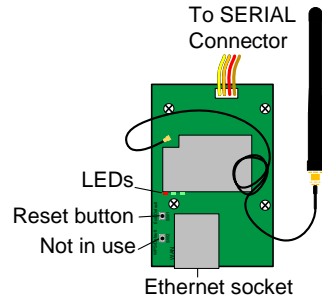

Figure 1. The MWA500 module
1. While the module is connected to power, press and hold the *Reset* button (see *Figure 1*) for 10 sec.